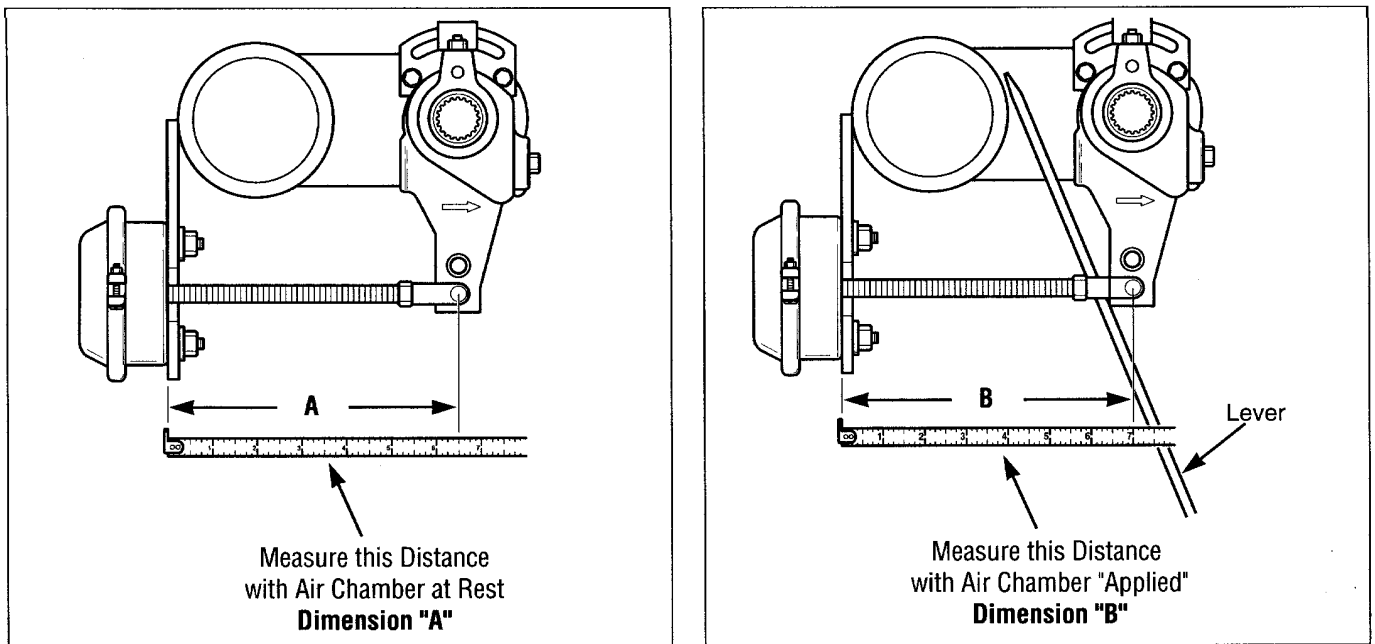

Figure 8-5 Adjust Slack Adjusters
Chock tires and release brakes. Measure the distance (A) with brakes released. See figure 8-5. Use a lever to move slack adjuster until brakes contact the drum and measure the distance (B). Subtract distance A from distance B. The result is the free stroke. Adjust slack adjuster so the free stroke is  $\frac{3}{8}$  –  $\frac{5}{8}$  inch on each slack adjuster.